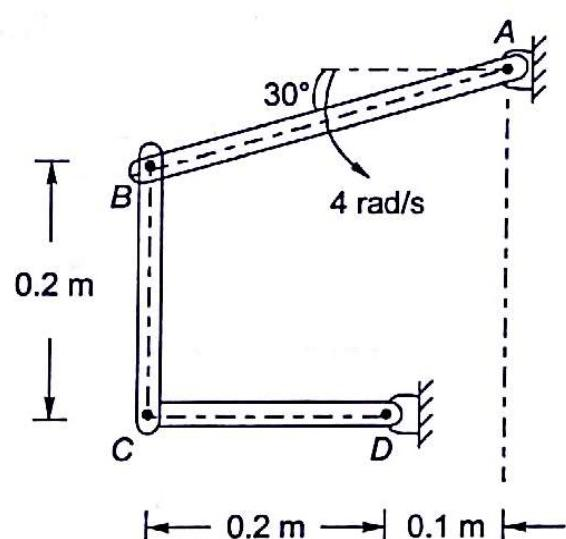

Fig. 12.16
12.2 A mechanism is shown in Fig. 12.16. Bar AB has a constant angular velocity of 4 rad/s, counter clockwise. Determine the angular velocity of bars BC and CD.